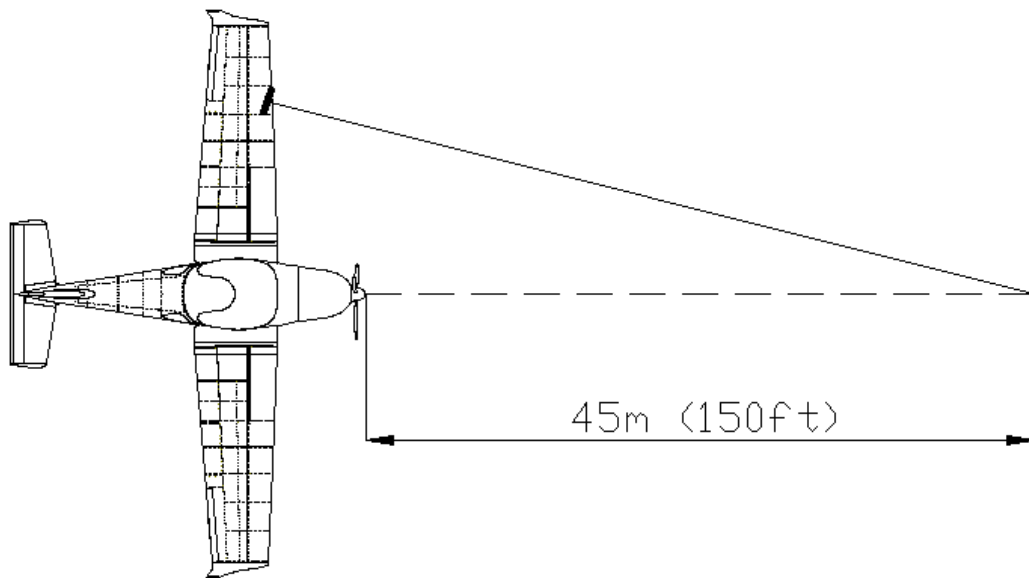

Fig. 11-1
- (b) Do adjustment in the horizontal direction according to Fig. 11-1 in such a way that the light axis is directed towards the airplane axis about 45m (150 ft) before the fuselage nose.